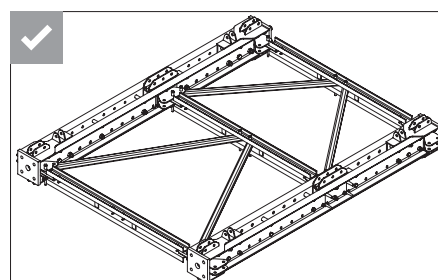
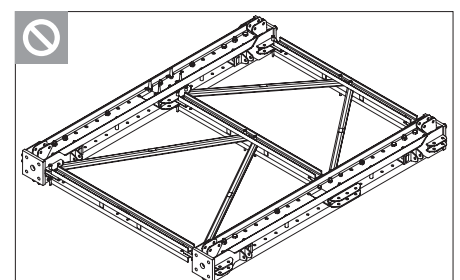

Fig. B3.02d
Fig. B3.02e
6. Repeat the procedure for all diagonal struts VST. (Fig. B3.02d)
Do not connect the horizontal support to the bracing connector VST, connect it to the cross connector VST instead. (Fig. B3.02d) (Fig. B3.02e)